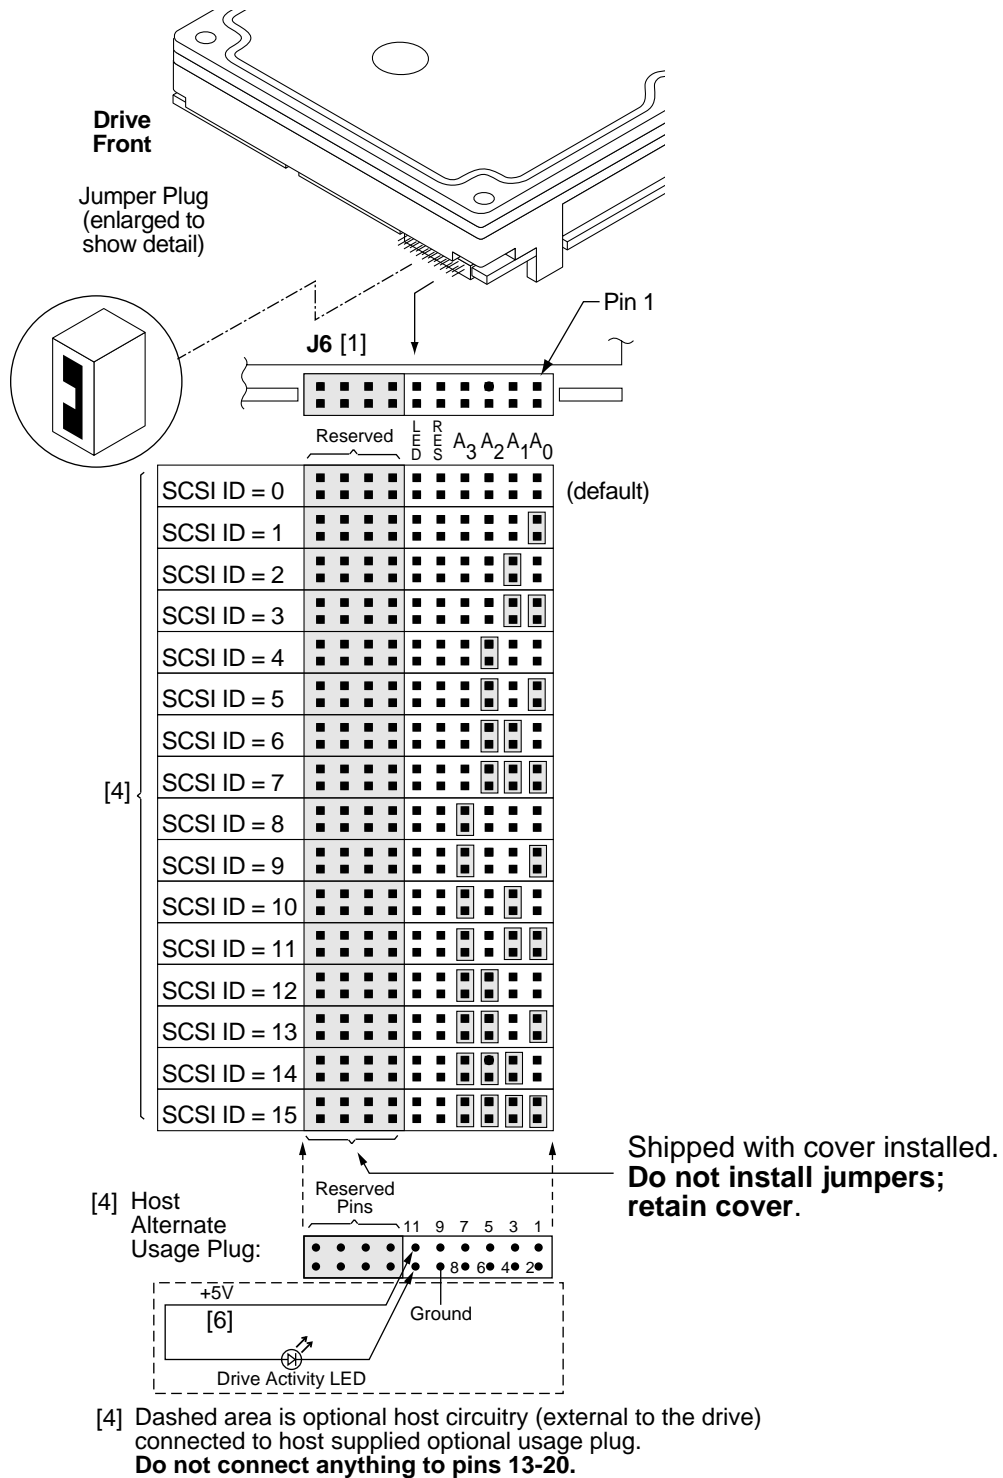
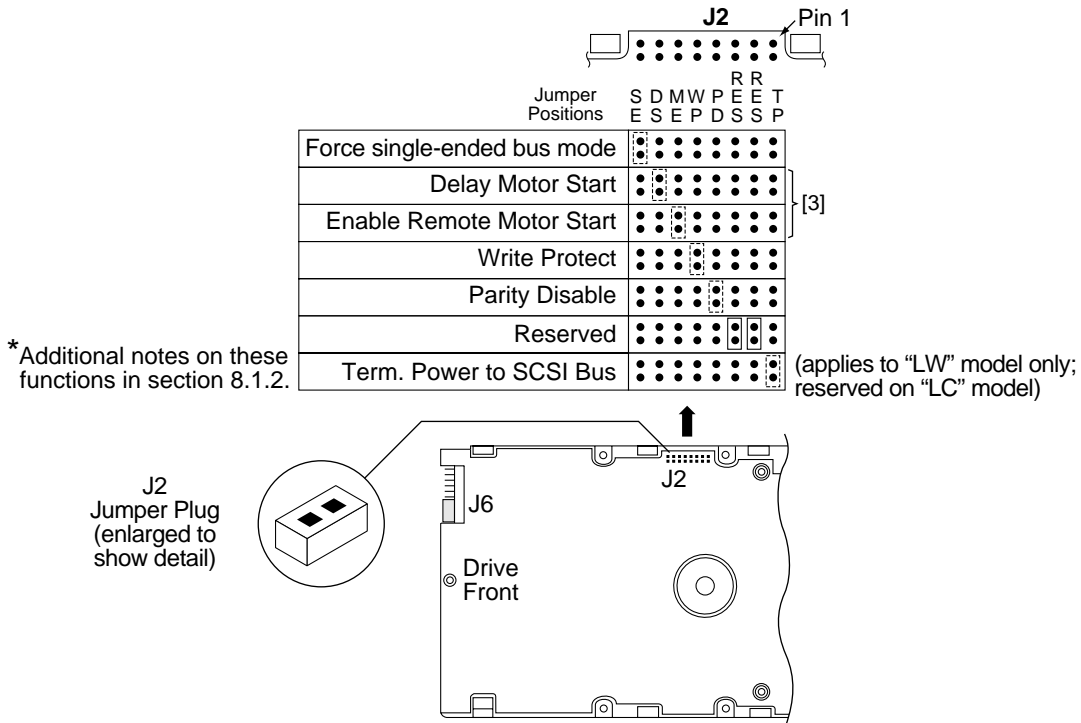

Figure 19. J6 jumper header
Figure 21. J2 option select header
For option jumper locations and definitions refer to Figures 19, 20, and 21. Drive default mode parameters are not normally needed for installation. Refer to Section 9.3.2 for default mode parameters if they are needed.
Figures 19 and 20 show views of the drive ID select jumper connectors. Figure 21 shows the option select jumper connector for all models. Figure 19 shows the drive’s J5-auxiliary jumper connector. Both J5-auxiliary and J6 have pins for selecting drive ID and for connecting the remote LED cable. Only one or the other should be used, although using both at the same time would not damage the drive. The notes following the figures describe the functions of the various jumper positions on the connectors J2, J5-Auxiliary and J6. Suggested part number for the jumpers used on J2 is Molex 52747-0211 (Seagate part number 77679052). A bag with the two jumper plug types is shipped with the standard OEM drives.
8.1.1 Notes for Figures 19, 20, and 21.